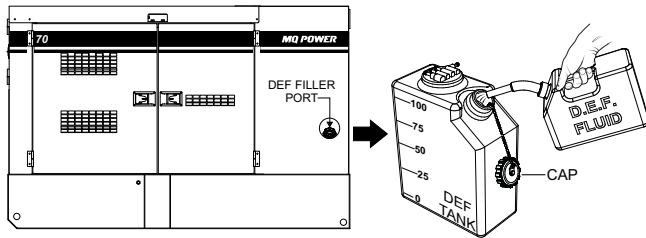

Figure 33. DEF Tank Filling
2. Remove the filler cap from the DEF tank (Figure 33).